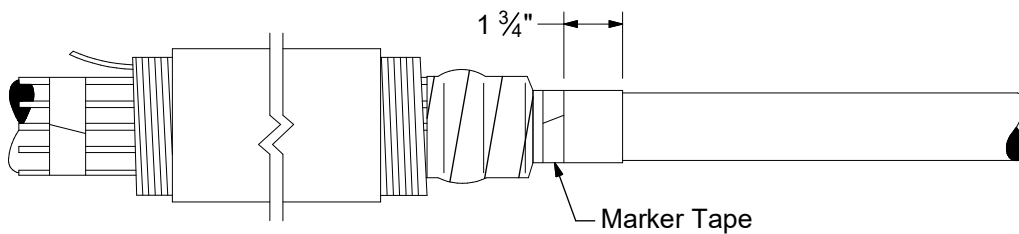

Figure 6
8. Place a marker tape on the cable semi-con located 1-3/4" from the end of the semi-con. (Figure 6)